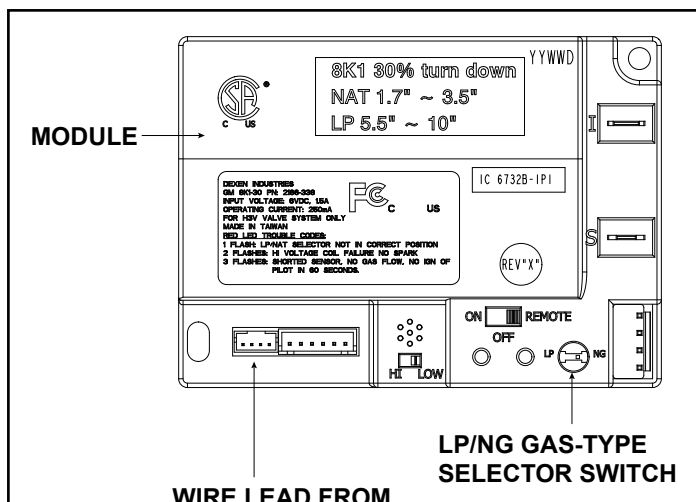

Figure 3.6 Control Module
1. The control module has an ON/OFF/REMOTE selector switch that must be set. See Figure 3.6.
- If using the wired switch in the control cavity with the module in REMOTE mode, the flame output can be adjusted with the HI/LO selector switch on the module. See Figure 3.6. Note that the flame HI/LO selector switch will become inactive once an optional remote control (RC200/RC300) is programmed to the control module. Note that the control module will always ignite the stove on HI and remain so for the initial 10 seconds of operation. If the HI/LO is switched to the LO position, the flame output will automatically drop to the lowest setting after the flame has been established for 10 sec. After this 10 second period, the flame can be adjusted from HI to LO with the switch.
- Locate the module selector switch. (See Figure 3.6).
- Wait five (5) minutes to allow possible accumulated gas to clear.